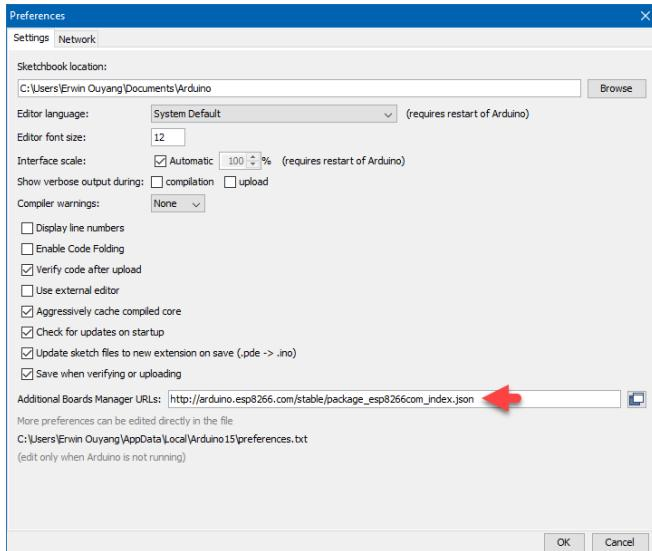

Figure 1.7. Enter ESP8266 package in Arduino preferences
- Enter `http://arduino.esp8266.com/stable/package_esp8266com_index.json` into **Additional Board Manager URLs** field as shown in Figure 1.7.